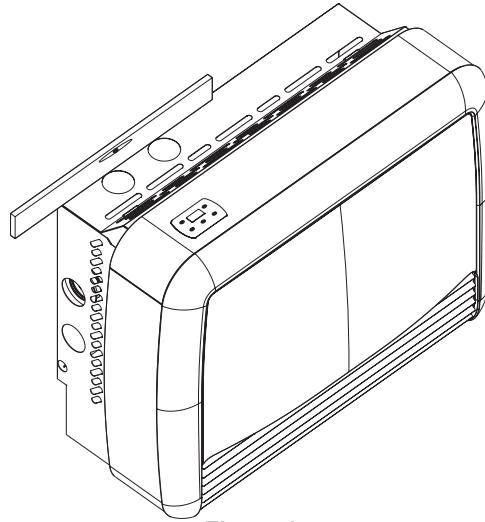

Figure 1
3. Move the wall furnace into position against the wall, ensure the wall furnace is level. Adjust the legs on the bottom of the wall furnace if necessary. **See Figure 1.**